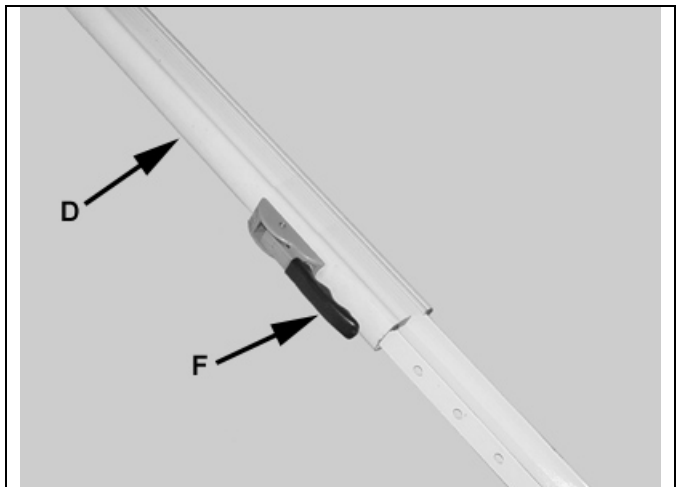

Figure 10-9 –Retract Main Rafter Arms
- Open latch handles (F) and fully retract main arms (D). Close the handles (F) to lock in position. See figure 10-9.